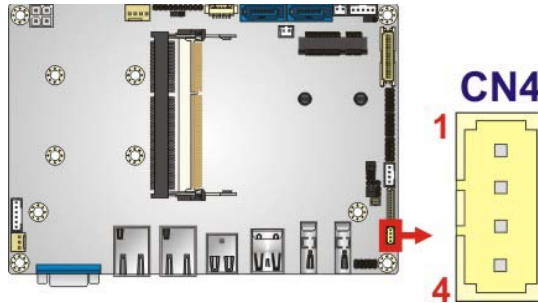

Figure 4-18: SMBus Connector Location
- CN Location: See **Figure 4-18**